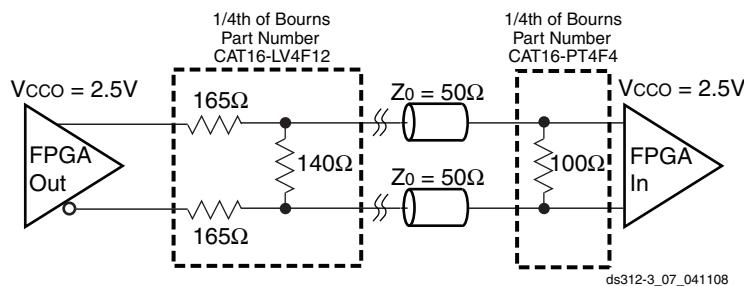

Figure 71: External Termination Resistors for BLVDS Transmitter and BLVDS Receiver
- Output voltage measurements for all differential standards are made with a termination resistor ( $R_T$ ) of  $100\Omega$  across the N and P pins of the differential signal pair. The exception is for BLVDS, shown in Figure 71.